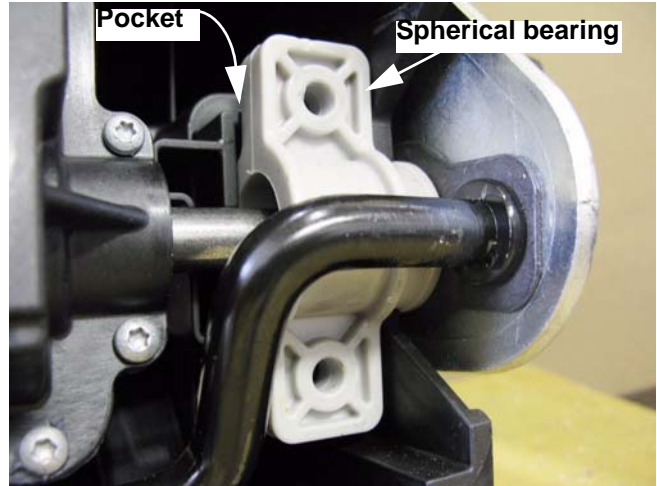

Figure 4.44
12. Slip the spherical bearings out of the pockets that locate them in the rear baffle, and remove the transmission and axle assembly together. See Figure 4.44.